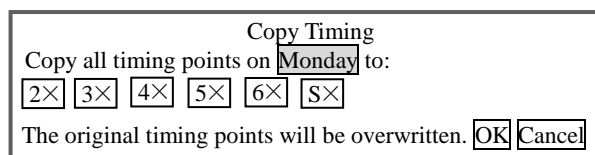

Fig. 10: Copy Timing Interface
7. Select the “Copy Timing” option in the “Operation Setup” interface, press the “OK” key to access the “Copy Timing” interface as shown in figure 10, adjust the date of timing point to be copied, such as to adjust it to Monday, press the cursor to select the date of timing point to be copied and press the “OK” key (the date will be selected if a “✓” symbol appears after the number), then press the “OK” option to finish the copy.